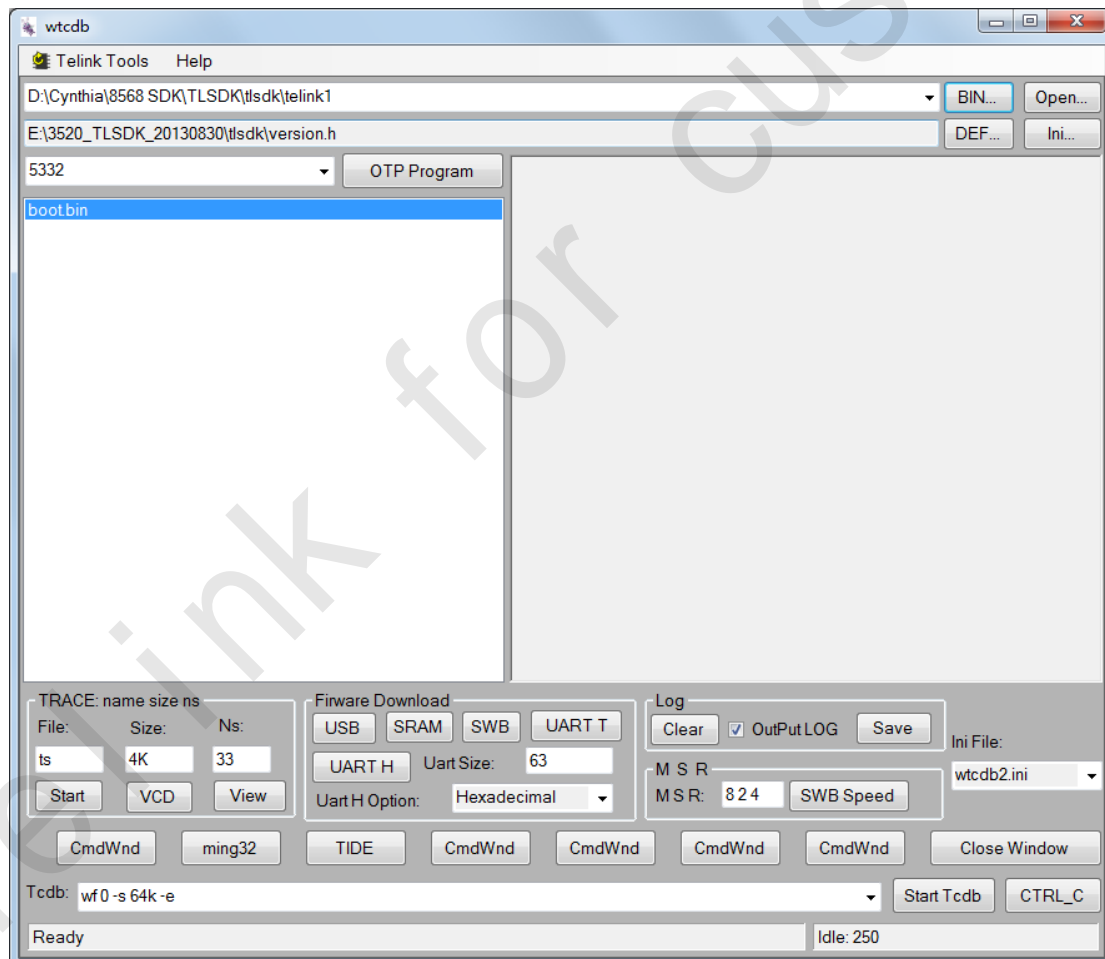

Figure 16 Firmware burning interface
- (1) Select “5332” (the category the currently used RF SoC or MCU belongs) in the chip select drop-down box.
- (2) Click the “BIN” button and select the directory, e.g. “D:\Cynthia\8568 SDK\TLSDK\tlsdk\telink1”, containing the bin file to be downloaded.
- (3) In the left window of Figure 16, double click the bin file “boot.bin” to burn it into EVB via USB.